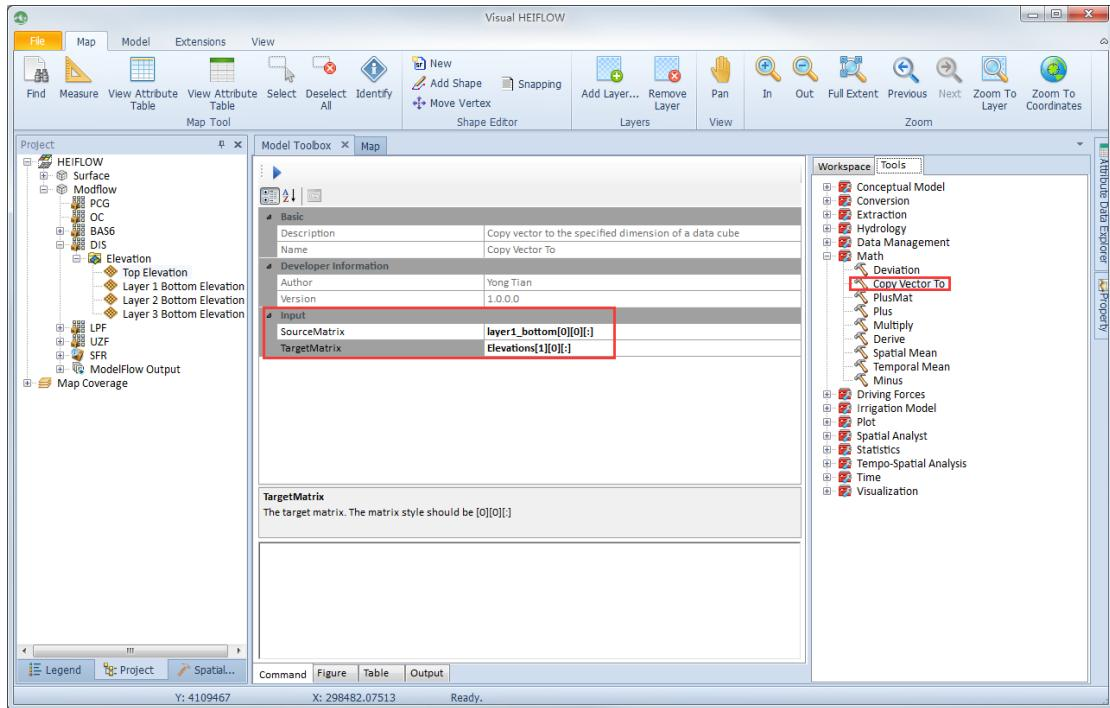

Figure 5-23. Copy values to the Elevation data cube
9) Double click the “Copy Vector To” tool, set Input as shown in Figure 5-23: